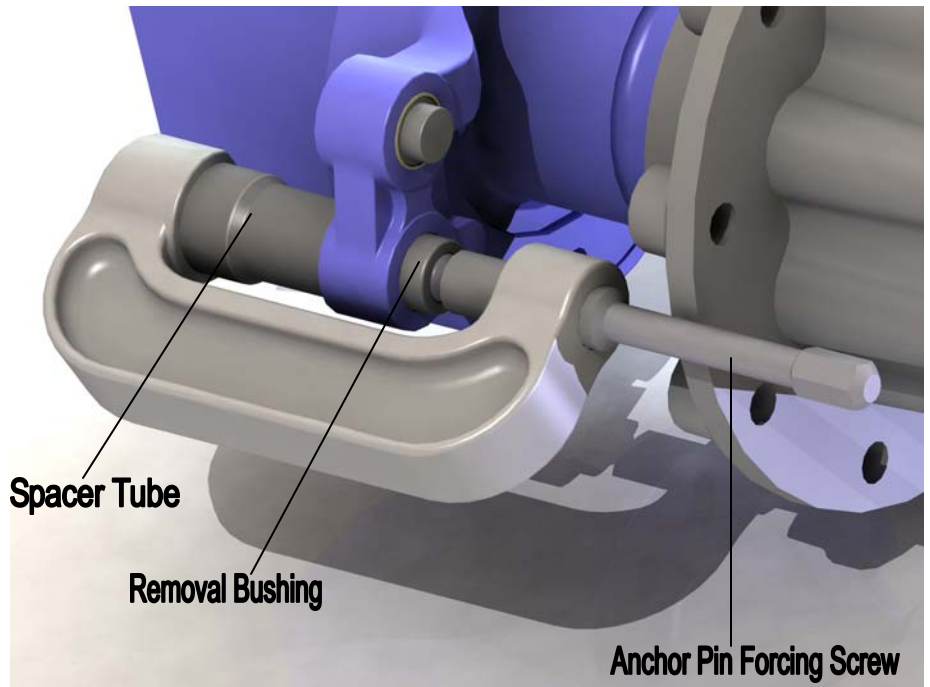

Figure 3
3. Place the tool assembly over the bushing and the spider, so that the anvil locates in the recess on the bushing remover (see Figure 3).